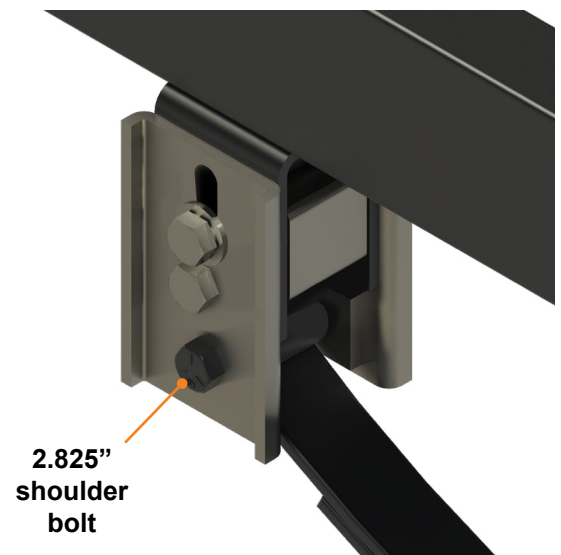

Fig.5
6. Bolt the assembly together using a $\frac{9}{16}$ " x 2.825" shoulder bolt (bolt length 3.375") and a nut (**Fig. 5**). Torque the nut to 30-50 ft-lbs.